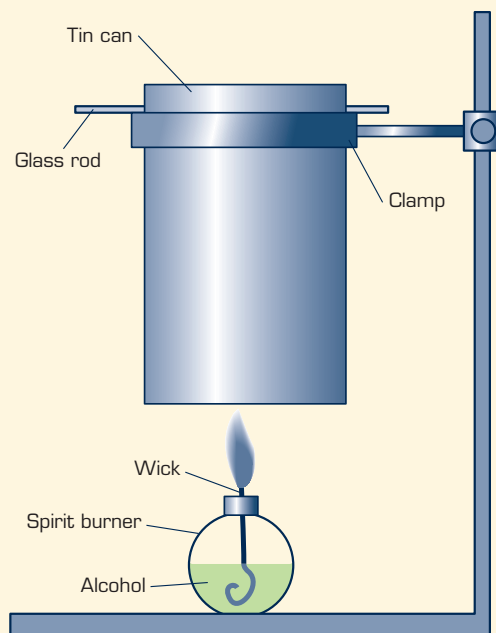

figure es.6
- 1 Set up the apparatus as shown in figure es.6.